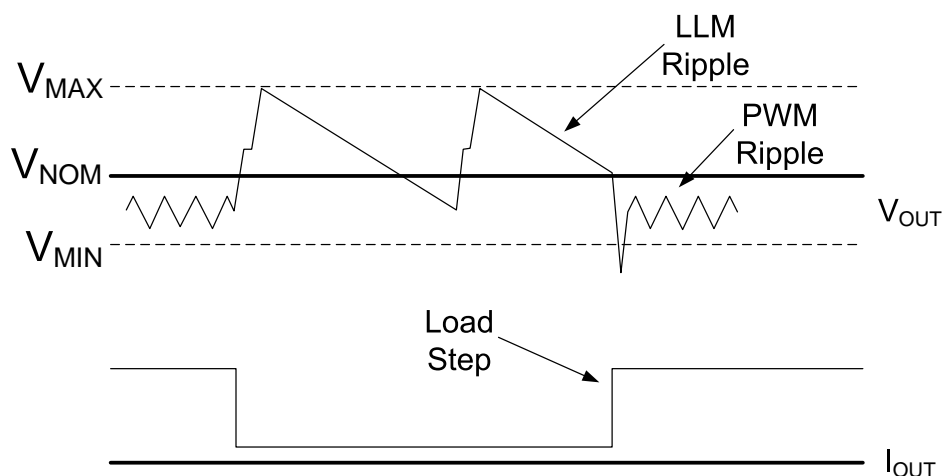

Figure 5. VOUT behavior in LLM operation
- (1) Step V_{OUT} up by approximately 1.0% above the nominal operating output voltage setting, V_{NOM} and as low as -0.5% below V_{NOM} , and then
- (2) Shut down unnecessary circuitry, and then
- (3) Monitor V_{OUT} .
When V_{OUT} falls below V_{NOM} , the device will repeat (1), (2), and (3). The voltage step up, or pre-positioning, improves transient droop when a load transient causes a transition from LLM mode to PWM mode. If a load transient occurs, causing V_{OUT} to fall below the threshold V_{MIN} , the device will exit LLM operation and begin normal PWM operation. Figure 5 demonstrates V_{OUT} behavior during transition into and out of LLM operation. Many multi-mode DC-DC converters suffer from a condition that occurs when the load current increases only slowly so that there is no load transient driving V_{OUT} below the V_{MIN} threshold. In this condition, the device would never exit LLM operation. This could adversely affect efficiency and cause unwanted ripple. To prevent this from occurring, the EN6347QA periodically exits LLM mode into PWM mode and measures the load current. If the load current is above the LLM threshold current, the device will remain in PWM mode. If the load current is below the LLM threshold, the device will re-enter LLM operation. There may be a small overshoot or undershoot in V_{OUT} when the device exits and re-enters LLM.